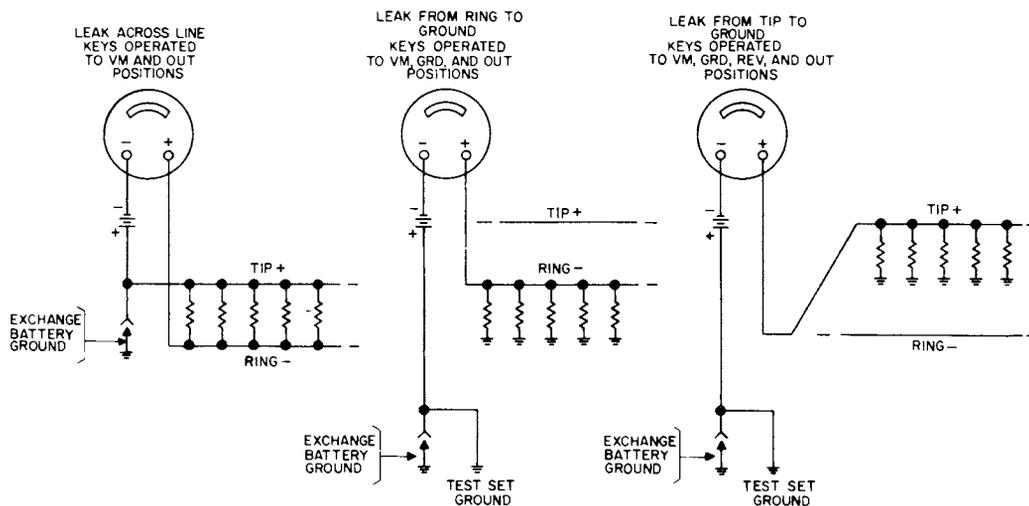

Figure 14. Line leak tests.
- a. Leak across tip and ring (figure 14). A measurement of insulation resistance between the tip and ring conductors of a line is accomplished in the same manner as for a loop test with battery on the voltmeter, as described in section 5.3.4.
- b. Leak from ring to ground (figure 14). Operate the OUT/IN key to the OUT position and the VM key. Also operate the IMPULSE TEST/GRD key to the GRD position. A steady voltmeter deflection indicates a ground leak on the ring side of the line. This voltage reading can be used to determine the resistance of the leak by reference to Tables I, II, III, IV, V, and VI or by calculation from the formula:
- c. Leak from tip to ground (figure 14). Operate the WC LINE/REV key to the REV position in addition to the keys operated in b. above. A deflection of the voltmeter needle indicates a ground leak on the tip side of the line.